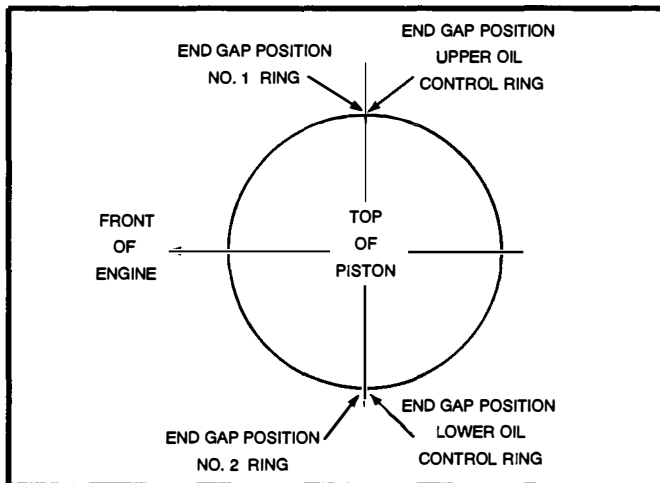

Figure 25.
9. Place the ends of each piston ring at the respective positions as indicated in Figure 25.